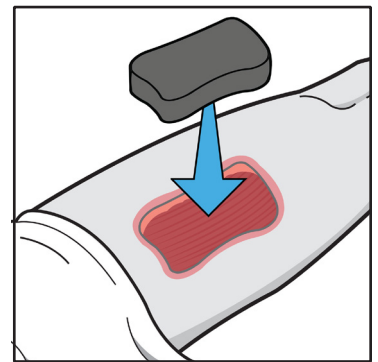

Figure 3
8. Place the black foam dressing in the wound taking care to avoid contact with the peri-wound skin (**Figure 3**). Black foam should be higher than skin level and cover the entire wound base. Black foam may be stacked for deep wounds.